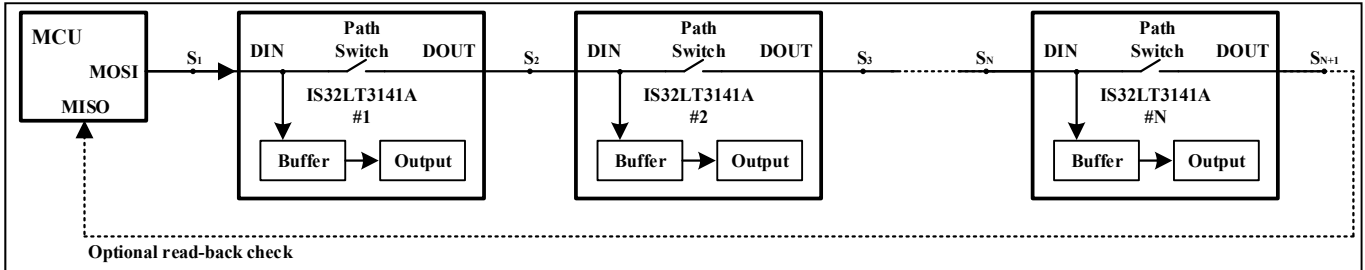

Figure 50 Onewire Serial BUS Connection
An external MCU can easily control output ON/OFF of multiple IS32LT3141A slaves through a onewire serial BUS. As shown in Figure 50. The protocol uses a single data line with cascaded connection between slaves for data transmission. A clock is not required as each slave is clocked by an internal oscillator which is synchronized in-coming command frame from the MCU. Therefore, this protocol significantly simplifies the MCU I/O requirement. A single push-pull I/O can control upto 30 slaves. The onewire serial BUS implements simplex communication. The MCU initiates all transfers on the data line. Transfer of data can only be from the MCU to the slaves and the achievable data rate ($1/T_C$) range is 10kbps to 100kbps. The idle state of the onewire serial BUS is logic high.
As shown in Figure 50. There is a path switch and a data buffer inside each IS32LT3141A device. The path switch is used to connect the DIN to the DOUT. After power up, all IS32LT3141A slaves are in standby mode for command receiving, their path switches in open state and their output stage (output current source) in off state.
- 2) Connect the DOUT of the last slave to the MISO line of the SPI interface for a real-time monitoring of the last command frame. As Figure 50. During the “ON” or “OFF” command frame transmission, the DOUT of the last slave should remain in idle state (logic high). All data read by the MISO line must be “FFh”. Otherwise the onewire serial BUS is in abnormal state. The MCU should abort the command frame transmission and send out a “RESET” signal to reset the onewire serial BUS. If all “ON” or “OFF” command frames are successfully transferred and the “LATCH” command frame is sent out, the data read by the MISO line must be “55h” and “0Fh”, otherwise the onewire serial BUS is in abnormal state. The MCU should abort the